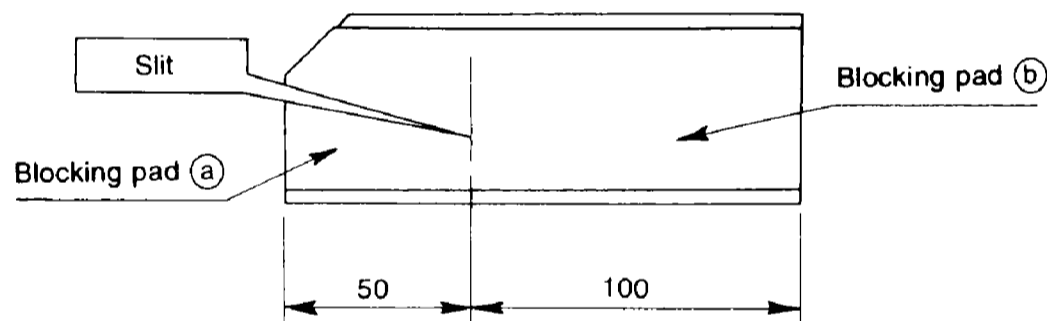

Fig. 4
- (2) In case of BYC71F-W1 model, install the attached blocking pad. (It is not needed for BYC125F-W1 model.)
- ① Cut the blocking pad along the slit. (Refer to Fig. 4)